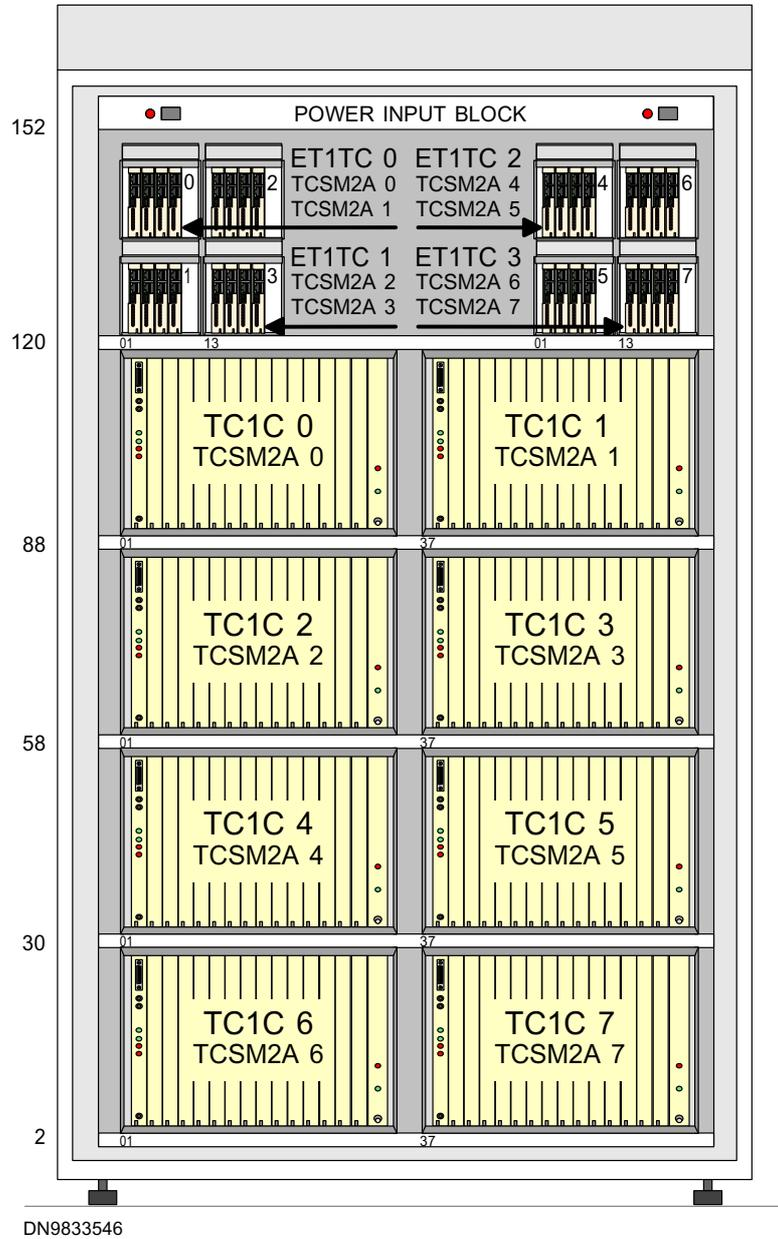

Figure 3. Unit and cartridge positions in TCSM2A configurations
- Figure 3. Unit and cartridge positions in TCSM2A configurations **16**